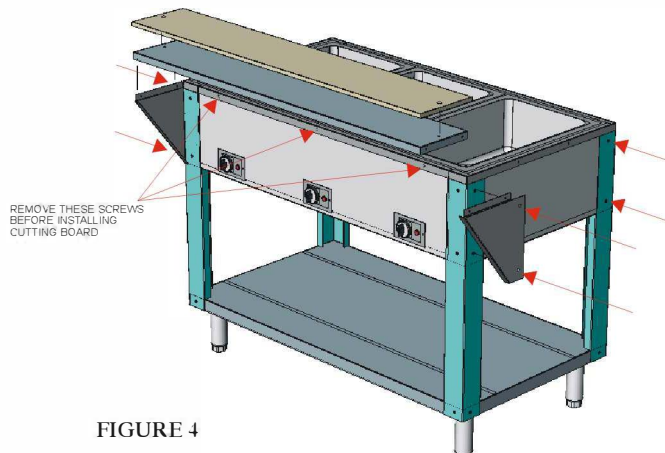

FIGURE 4
D. **Poly Cutting Board Assembly.** Remove operator side screws securing the top panel to the box. These will be used to strengthen the cutting board. Install the cutting board brackets on the ends of the main box as shown in Figure 4. Use $\frac{1}{4}$ -20 x $\frac{3}{4}$ " screws.